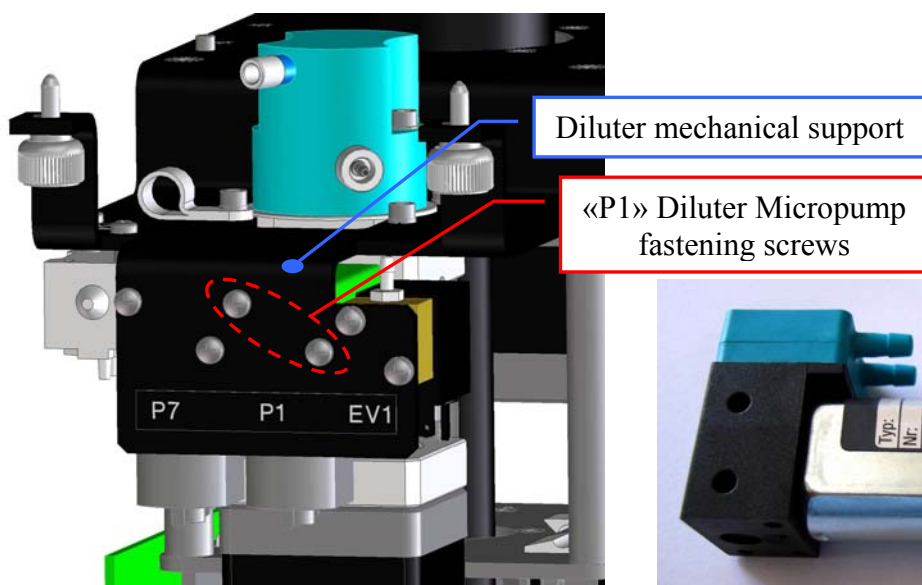

Fig. 37 – « P1 » Diluter Micropump fastening screws
4. Unscrew the two fastening screws of the “P1” Diluter Micropump (**Fig. 37**) and take out it from the Diluter mechanical support.